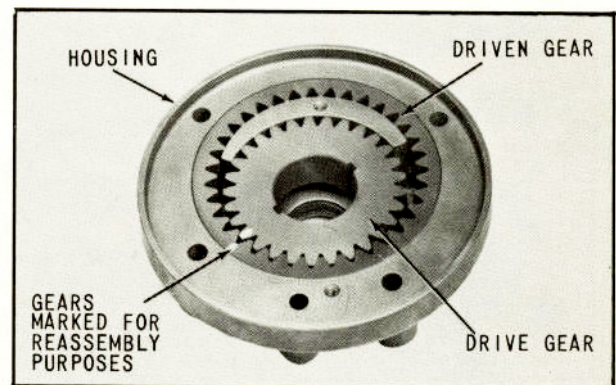

Fig. 91 Installing Pump Gears
8. Place housing, lubricated with automatic transmission fluid type "A", suffix "A", and complete with seal in position shown in (Fig. 91). Install lubricated gears as shown, with reassembly identification marks matched, (Fig. 91).